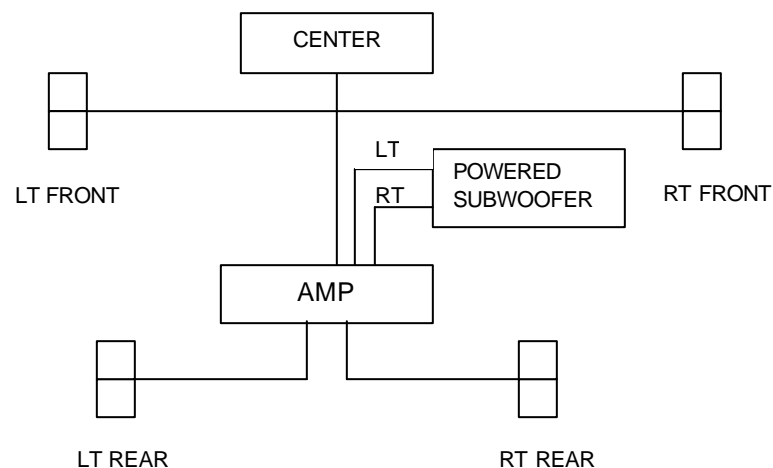

Figure 4
- The other option requires the front left and right speaker cables be routed from the amplifier through the subwoofer to the speakers. The wires from the amplifier should be connected to the "HIGH LEVEL INPUT" and the cables going to the speaker should be connected to the "HIGH LEVEL OUTPUT" on the subwoofer (see figure 4).